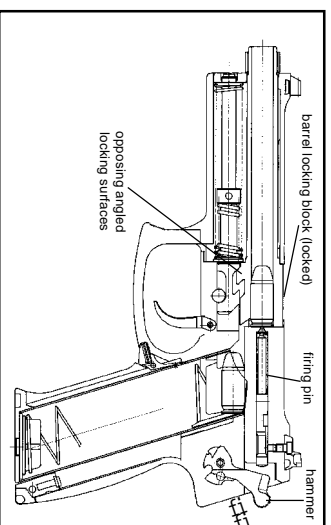

Figure 5 Firing
A. **Firing** - (See Figure 5) Pulling the trigger rearward pulls the trigger bar forward. The trigger bar pivots the sear actuator upwards which disengages the firing pin block. At the same moment, the sear is pivoted out of engagement from the lower of the two shelves located on the hammer. The compressed hammer spring drives the hammer forward into
H. Locking - (See Figure 5) -The slide presses the barrel forward. As it does, the opposing angled surfaces of the barrel locking block and recoil spring guide rod pivot the rear end of the barrel up into engagement with the ejection port in the slide. The slide is now fully forward and the new round is ready to be fired.